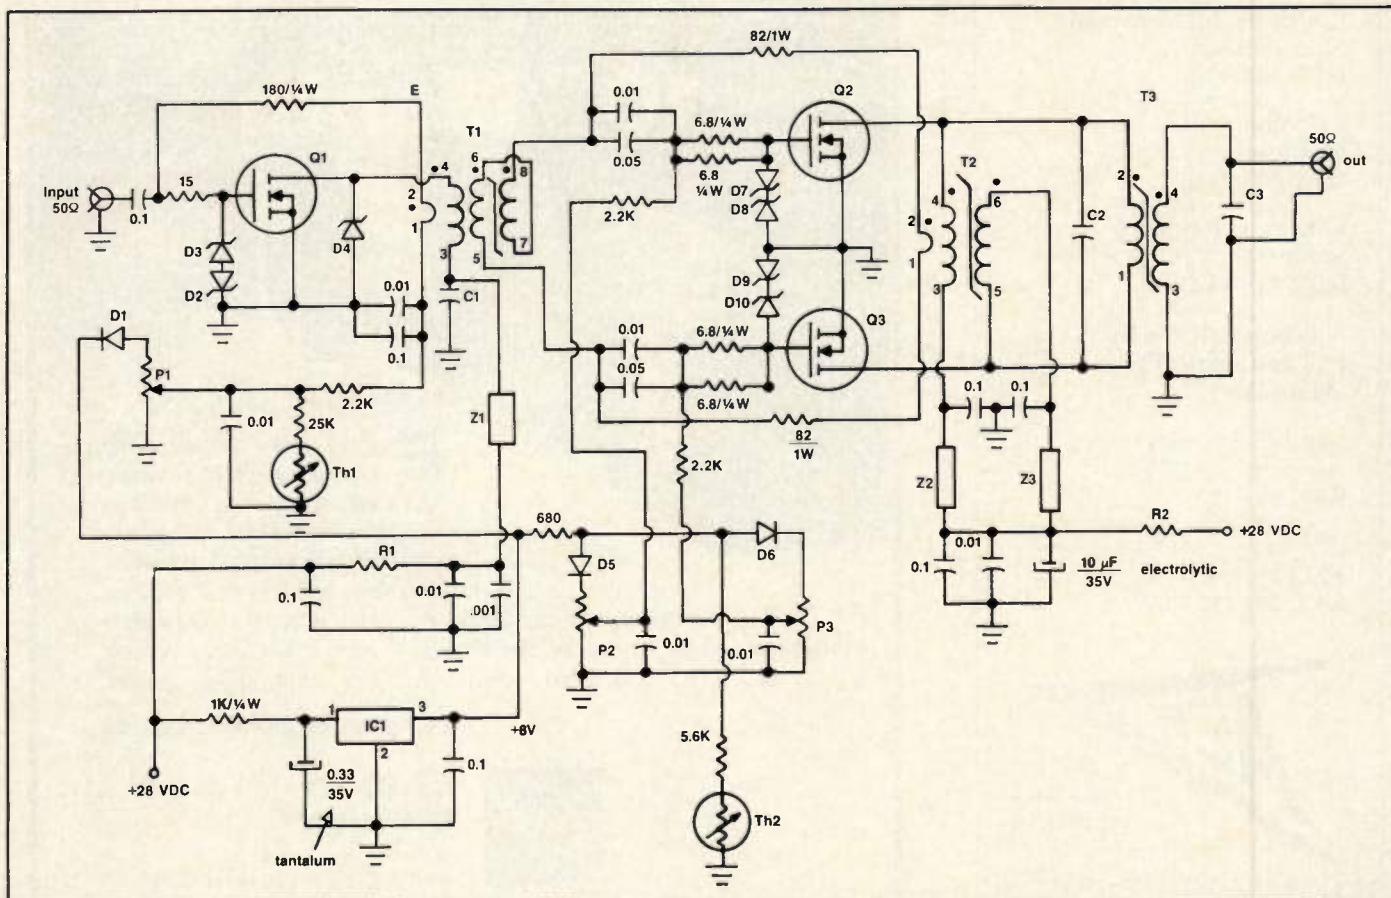

Figure 1. Schematic diagram of the amplifier.
The class A amplifier with feedback driver stage employs an MRF136 power FET (4) designated Q1 in Figure 1. Drive power is transferred to the output stage by means of T1, whose primary winding (3-4) receives about 1 W at a load
Forward transconductance of the device is  $g_{fs}$ ,  $n$  is the turns ratio between drain and feedback windings,  $R_r$  is the feedback resistor and  $R_L$  is the load resistance. For the driver Q1 in Figure 1,  $g_{fs}$  is 0.4 mhos,  $n$  is 5,  $R_r$  is 180 and  $R_L$  is 25. More accurate results were obtained by using S parameters provided by the